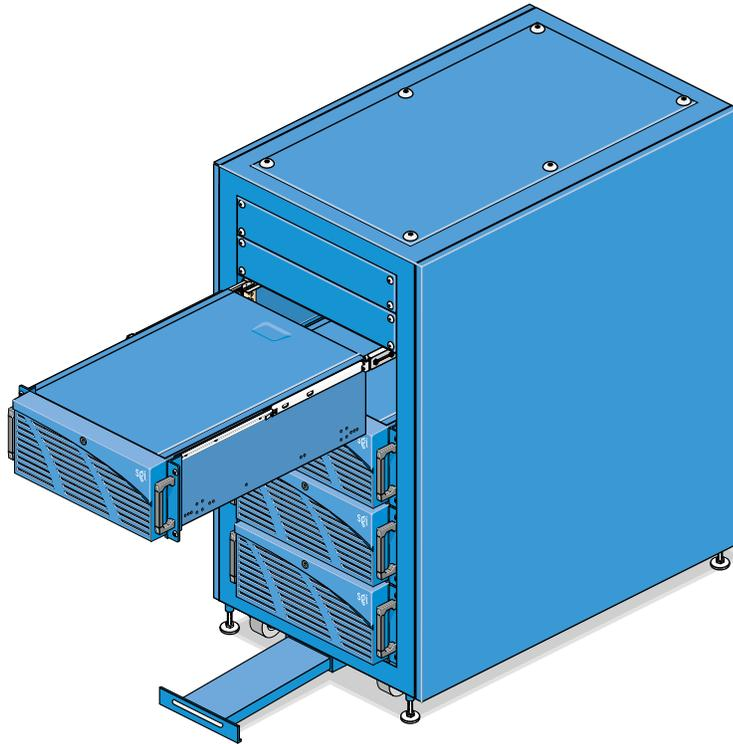

Figure 7 Sliding a Node Out of a Rack
- Using the node's handles, slide the node out of the rack; refer to Figure 7.